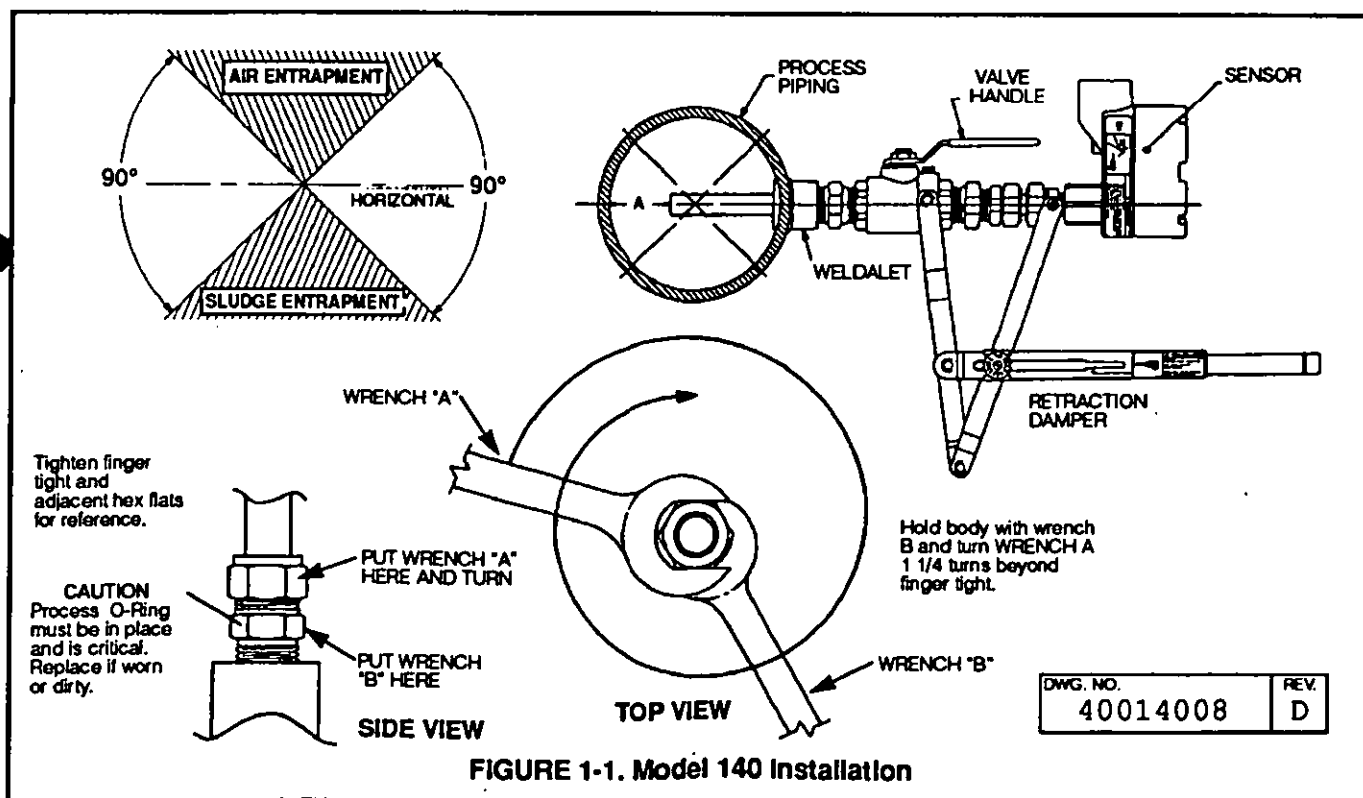

FIGURE 1-1. Model 140 Installation
1.3.1 Model 140 Sensor Installation. The sensor is installed in either a one-inch weldolet or pipe tee. Refer to Figure 1-1 for part nomenclature and installation information. Install the sensor as follows:
3. Install the Valve Body Fitting in to the Weldolet or Tee as illustrated. (Figures 1-1). Use TEFLON pipe tape on the pipe threads.
8. Set the sensor tip about 1 inch from the far wall of the process piping. See dimension A in Figure 1-1.
9. Tighten the compression fitting on the sensor to hold sensor tip in position. See insert on Figure 1-1 for proper compression fitting tightening instructions.
5. Tighten sensor compression fitting in the same manner as illustrated for the Model 140 sensor compression fitting (Figure 1-1).
2. Push in on the sensor J-Box and slowly loosen the sensor compression fitting (reversing the sensor tightening procedure illustrated in Figure 1-1).